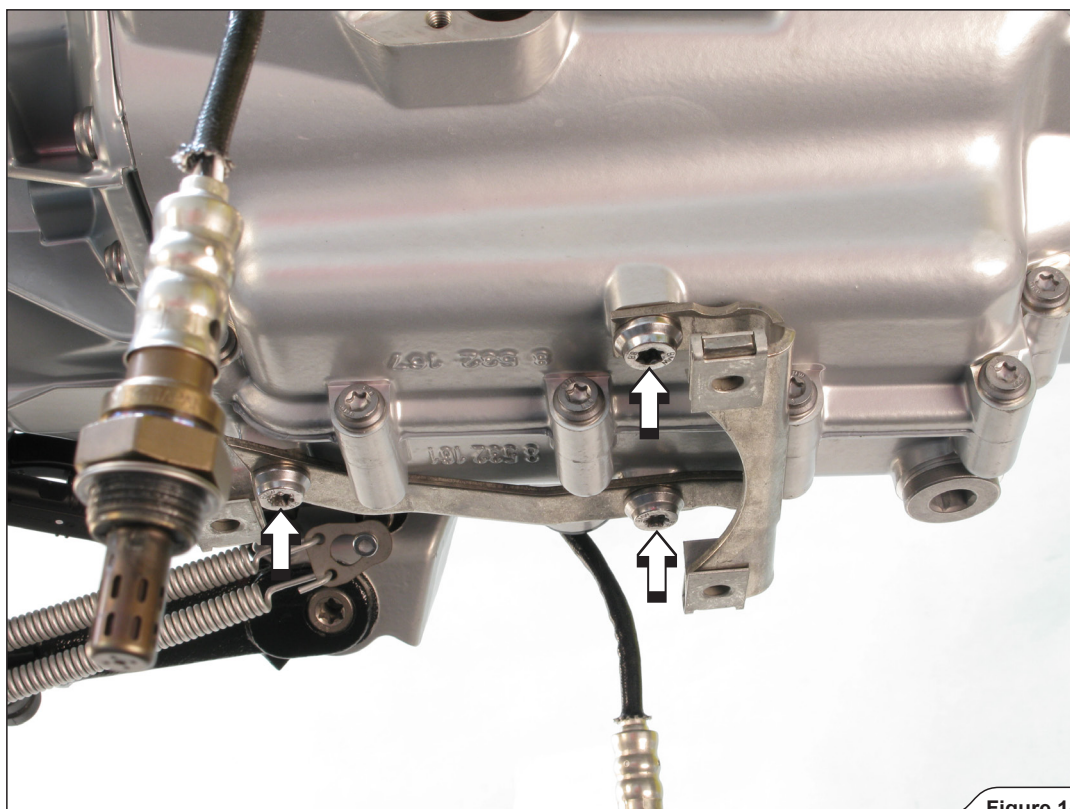

Figure 14
11. Unscrew the marked bolts and remove the skid plate's bracket off the motorcycle (**Figure 14**).